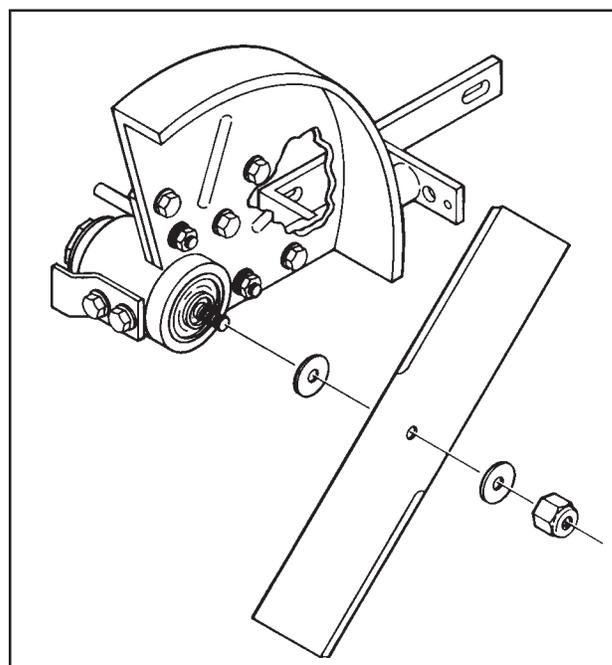

Figure 10, Blade Replacement
1. While holding the hex bolt head by the spindle pulley, remove the nut and washer and carefully remove the blade from the assembly (See Figure 10).